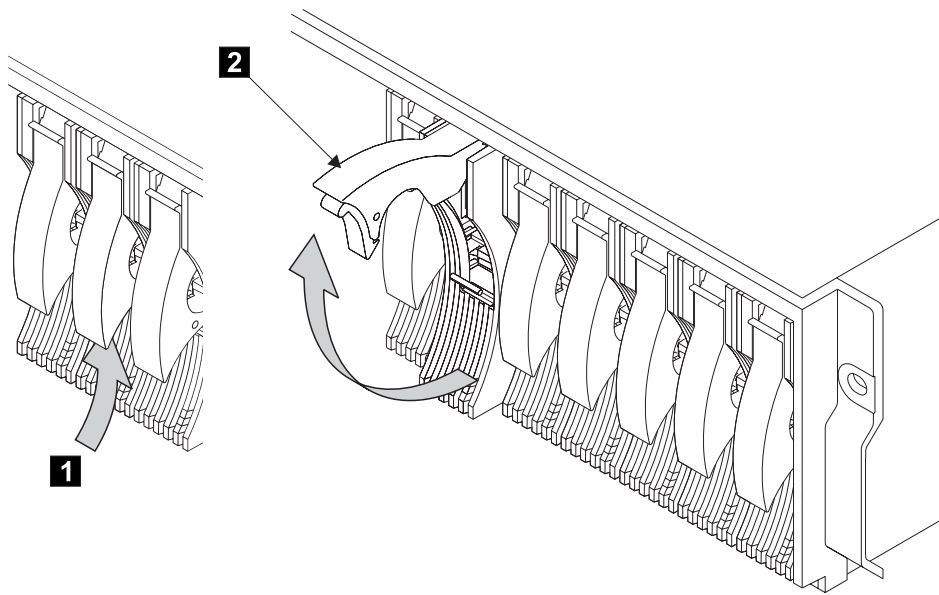

Figure 27. Opening the Handle of a Disk Drive Module
- Step 10. Refer to Figure 27.